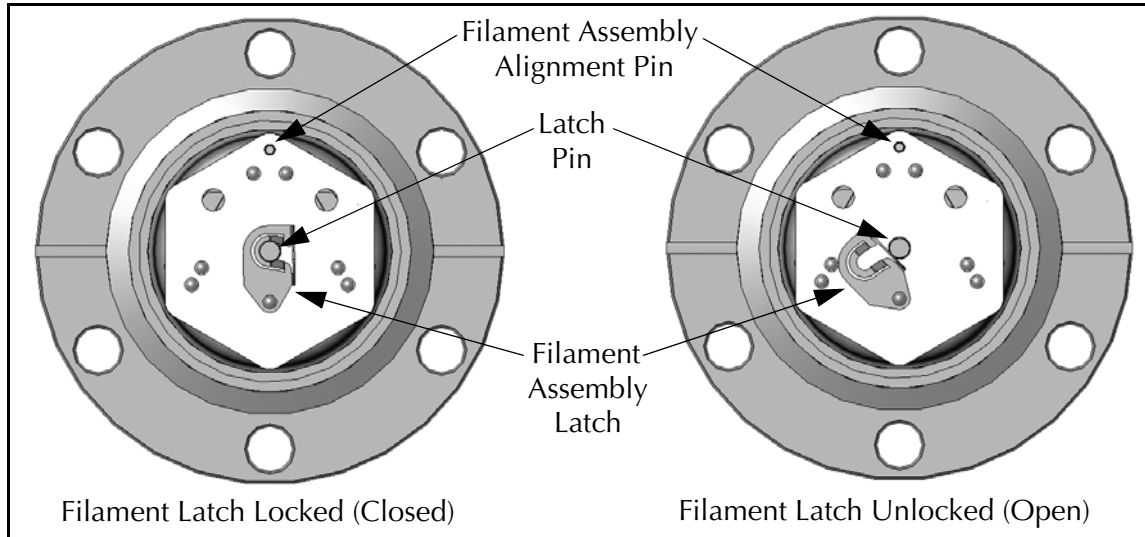

Figure 7-5 Filament Assembly Latch
- Unlatch the filament assembly so it can be removed from the gauge. Use tweezers or small needle nose pliers to rotate the latch counterclockwise. See Figure 7-5. Do Not use excessive force when unlocking or locking the filament latch.
8. Carefully lift the filament assembly from the gauge. Use tweezers or small needle nose pliers. Note the position of the alignment pin and center pin (latch pin). Also, note the position of the filament, which is between the two large holes. See Figure 7-5.
10. Rotate the latch clockwise to lock the replacement filament in place. Use tweezers or small needle nose pliers. Make sure the latch is in the closed position as shown in Figure 7-5.
16. Perform the (1) Initial Pumpdown (Section 8.3.2), (2) Filament Outgassing (Section 8.3.4), and (3) Auto Tune (Section 8.3.6).